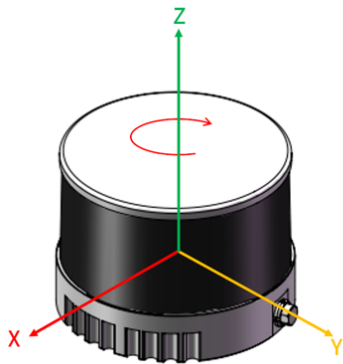
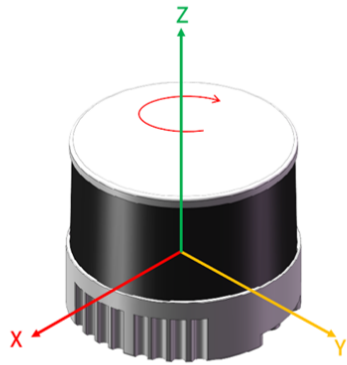

Figure 2. Coordinate system (isometric view)
Figure 4. Coordinate system (isometric view)
- The lidar's coordinate system is illustrated in Figure 2. Coordinate system \(isometric view\) and Figure 4. Coordinate system \(isometric view\). Z-axis is the axis of rotation.